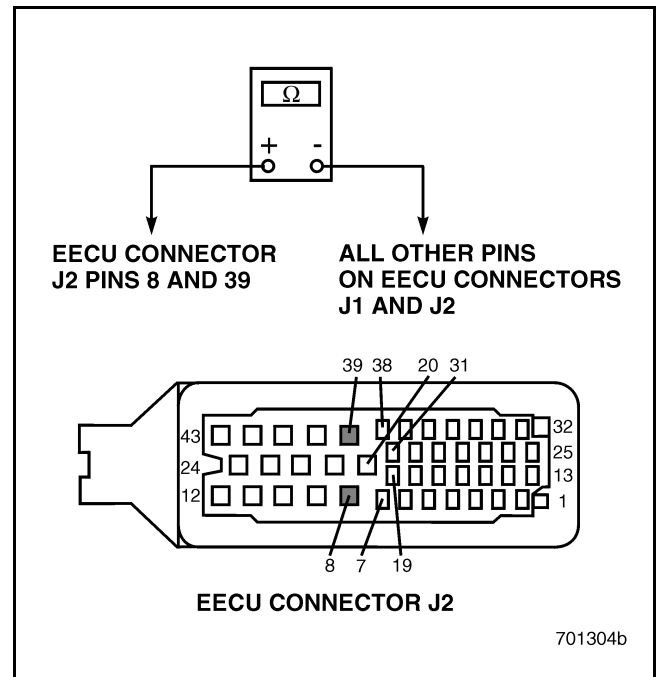

Figure 645
5. Check for continuity between EECU connector J2 pins 8 and 39 versus all other pins on EECU connectors J1 and J2 (see Figure 645).